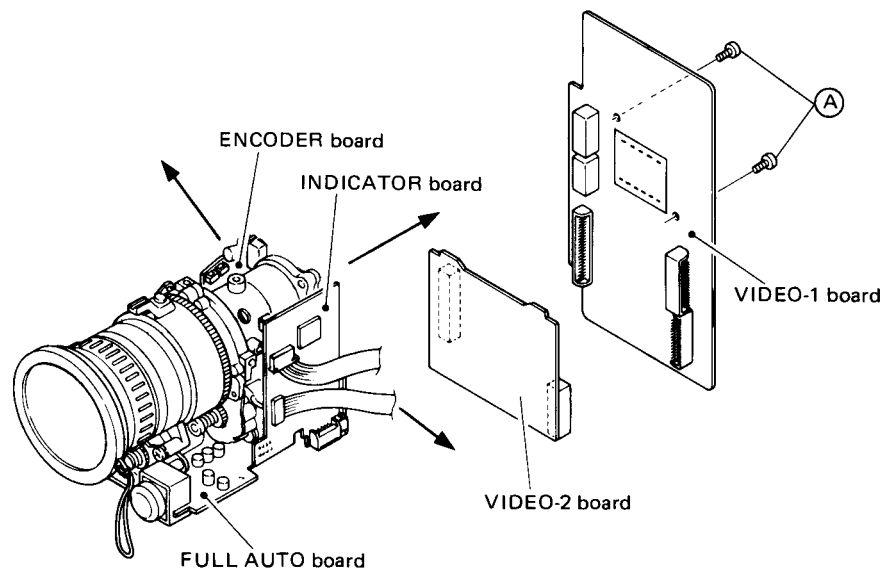

Fig. 1-3-2
1. Separate the camera section from the deck section, and remove the two screws (A).
4. The camera and deck sections can be separated by drawing out the VIDEO-1 board from the CCD in the direction of the arrow shown in Fig. 1-3-2.